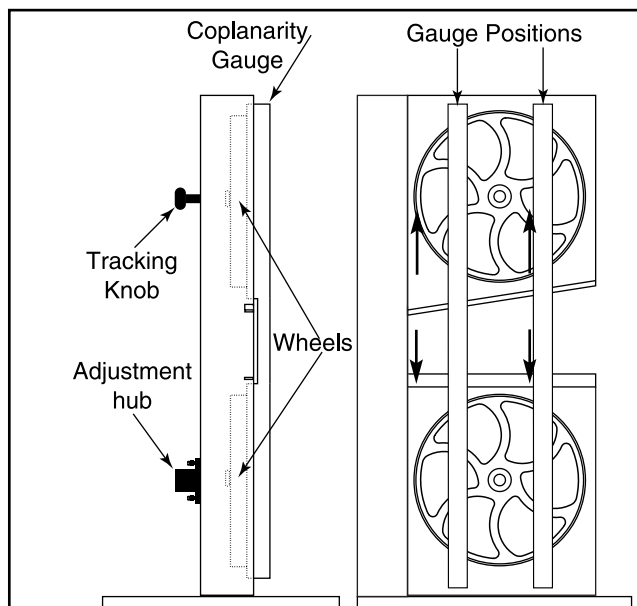

Figure 15. Coplanarity gauge placement.
5. Place your gauge up against both wheels in the positions shown in **Figure 15**.